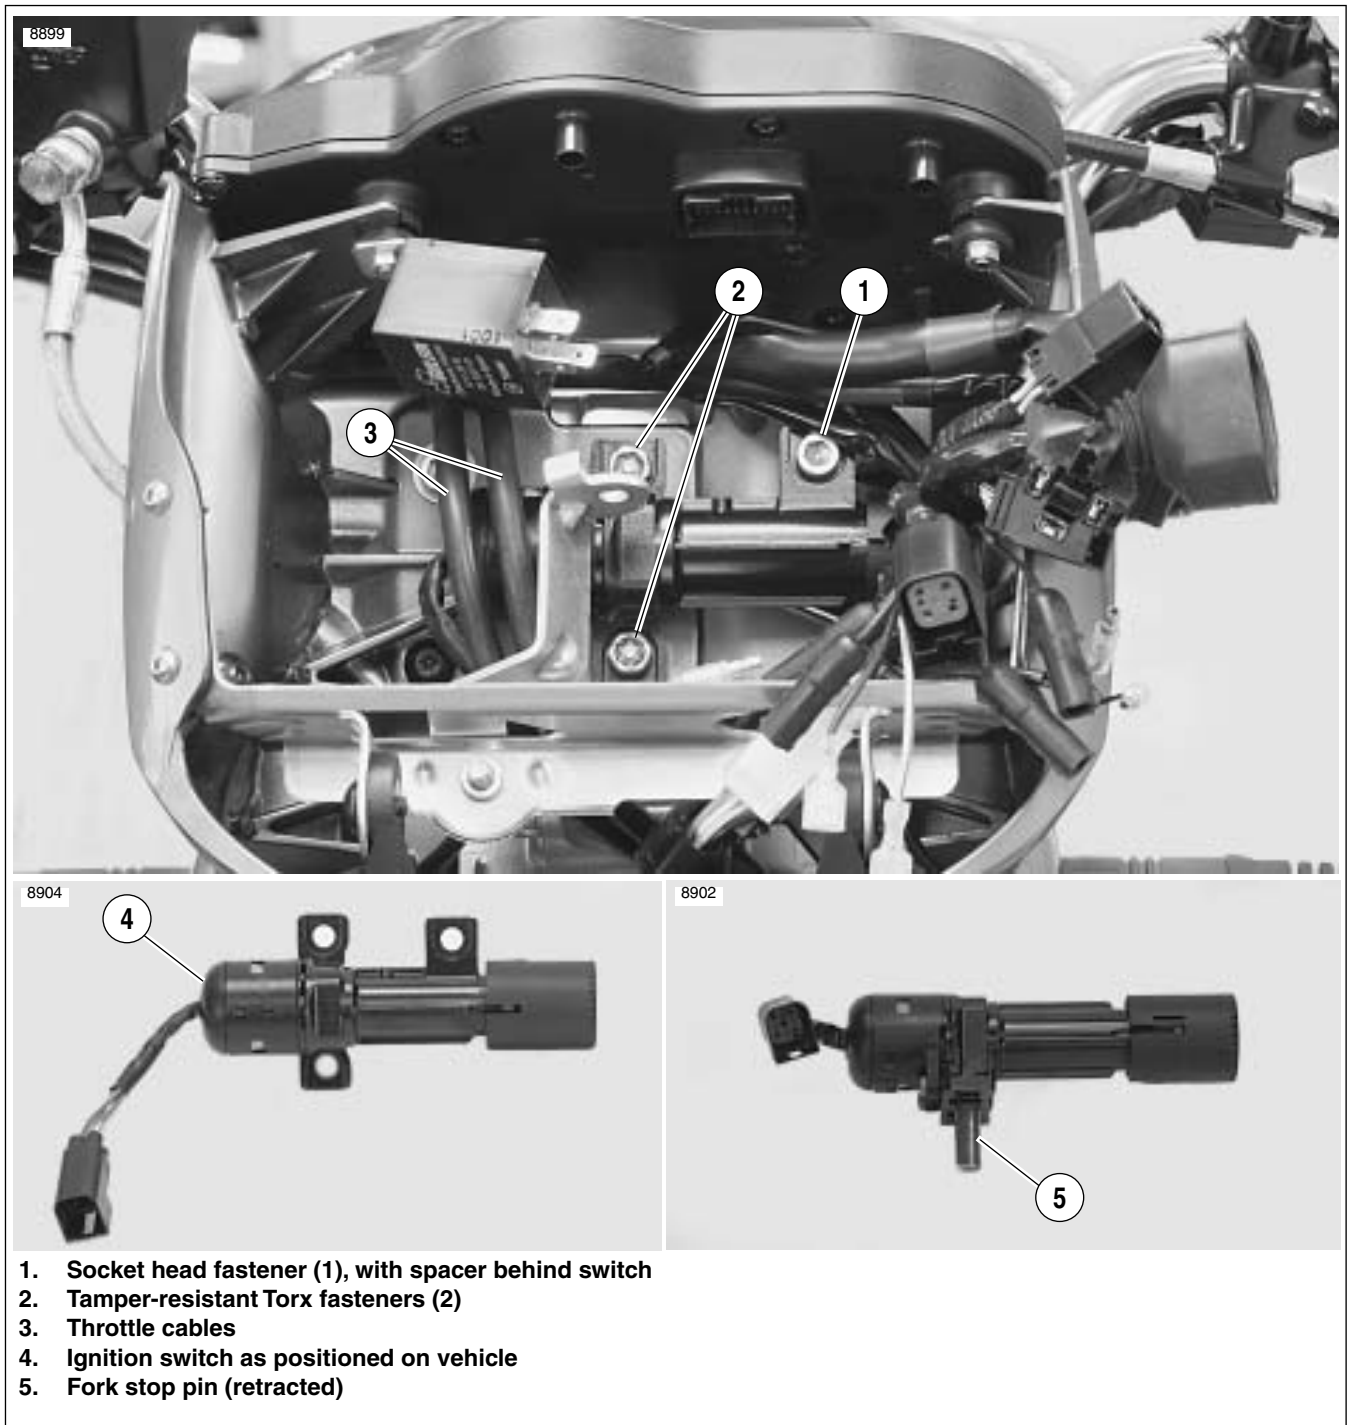

Figure 7-4. Ignition Switch
7. See Figure 7-4. Use Snap-on Tamper-Resistant T45 Torx driver (Part No. FTXR45E) to remove the two tamper-resistant Torx fasteners (2) securing ignition switch to upper fork clamp.
8. Remove the final ignition switch fastener (1) along with spacer located behind the ignition switch.
9. While holding the throttle cables (3) to your left (the right side of the vehicle), pull the ignition switch (4) toward you and roll the assembly away from you until the fork stop pin (5) is pointing down.
1. See Figure 7-4. While holding the throttle cables (3) to your left (the right side of the vehicle), slide the ignition switch assembly in to your right (the left side of the vehicle).
2. Install the ignition switch (4) with the fork stop pin (5) pointing down and, once in place, roll the assembly toward you and insert the fork stop pin into the upper triple clamp.